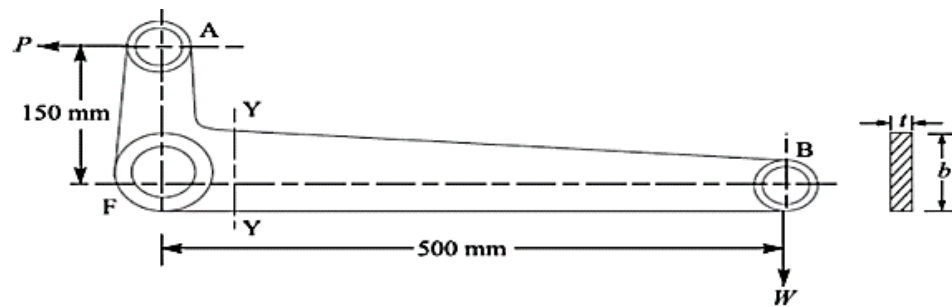

Figure. 3.1
5. A right angle bell crank lever is shown in Fig. 3.1 The load  $W = 4.5 \text{ kN}$ . The lever consists of forged steel material and a pin at the fulcrum. Take the following permissible stress for the pin and lever material. Safe stress in tension = 75MPa, Safe stress in shear = 60MPa, Safe bearing pressure on pin =  $10 \text{ N/mm}^2$ . The length of fulcrum pin is 1.25 times the diameter of fulcrum pin. Calculate the following: